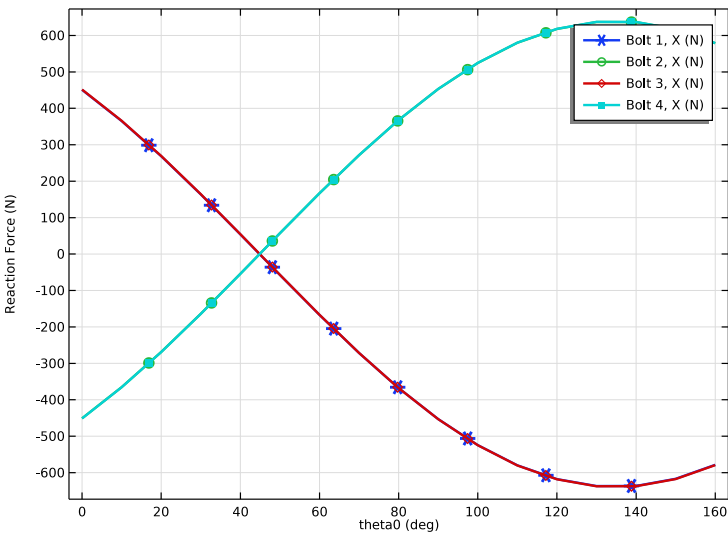

Figure 5: Reaction forces (x -component) as a function of angle.
Figure 5 shows that the x -component of the reaction force in all bolts for all load cases.
- 4 In the **Columns** list, choose **Bolt 1, X (N)**, **Bolt 2, X (N)**, **Bolt 3, X (N)**, and **Bolt 4, X (N)**.
- 8 In the **Reaction Force, X-component** toolbar, click  **Plot** to show Figure 5.